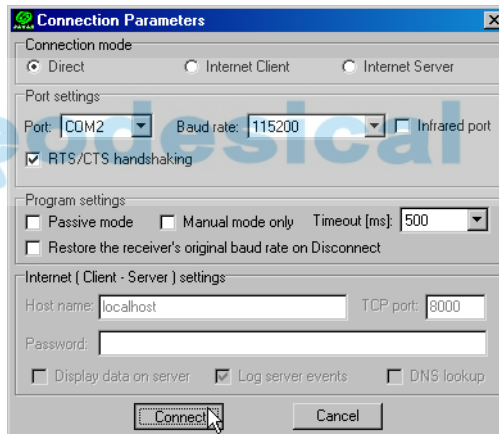

Figure 4-2. Connection Parameters – RTS/CTS Handshaking
3. On the Connection Parameters dialog box, enable RTS/CTS handshaking (Figure 4-2).
3. On the Connection Parameters dialog box, enable RTS/CTS handshaking (See Figure 4-2 on page 4-9.)